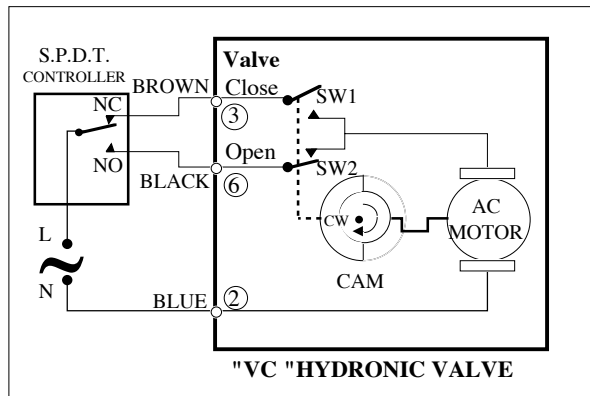

Figure 8 - Actuator wiring for SPDT controller (Series 20 and 60).
**WHEN USED WITH SPDT (3-WIRE) CONTROLLER** (Figure 8): On a call for heat, the NO thermostat contacts close, the valve opens. When the valve reaches the fully open position, the cam actuated SW1 closes and SW2 opens. When the need for heat is satisfied the NC thermostat contacts close, energizing the valve through SW1 to close the valve. When the valve reaches the fully close position, the cam actuated SW2 closes and SW1 opens anticipating the next call for heat cycle.